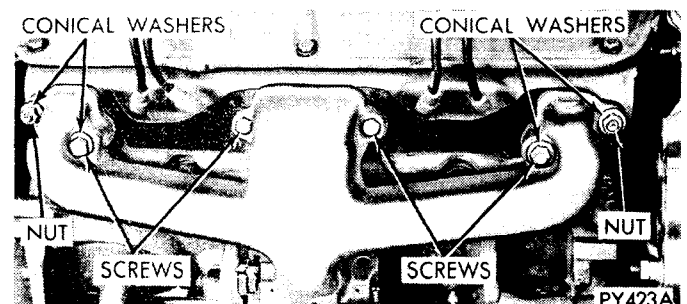

Fig. 9—Installing Exhaust Manifold—318 and 360 Cubic Inch Engines (Typical)
(1) Position two outboard arms of manifolds on the two studs on cylinder heads, using new gaskets. Install conical washers and nuts on studs (Fig. 9).
(2) Install two screws and conical washers at inner ends of outboard arms of manifold. Install two screws **without** washers on center arm of manifold (Fig. 9). Tighten screws and nuts, starting at center arm and working outward, to 25 foot-pounds.
(3) Assemble exhaust pipe to manifold, and secure with bolts, nuts and washers. Tighten nuts to 24 foot-pounds alternating as the nuts are drawn up.